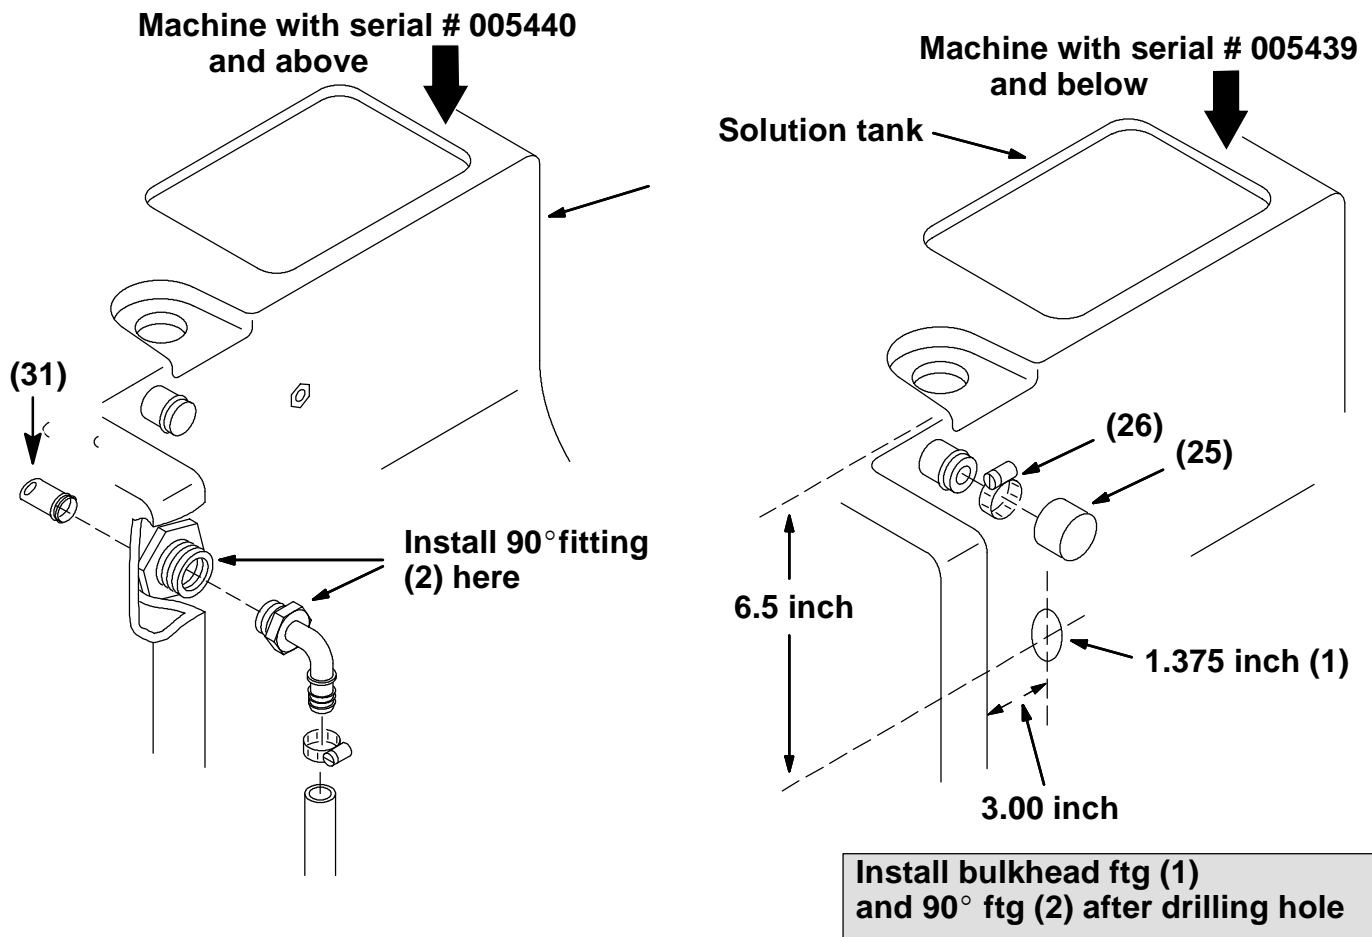

FIG. 3 - Solution Tank Rework
(Refer to FIG. 3 thru 7)
1. Use the two plug fittings (4) to plug the bulkhead fittings on the inside of the recovery tank that were left open when the fittings were removed in step 4 of the DISASSEMBLY instructions. (Refer to FIG. 3 and 7)
2. **Machine with serial # 005440 and above:** Install the 90° fitting (3) in the empty bulkhead fitting in the side of the solution tank that was left empty when the fitting was removed in step 2 of the DISASSEMBLY instructions. Make sure the barbed hose end points down. Install the new check valve (31) into the bulkhead fitting inside the solution tank. Make sure the rubber flap on the check valve (31) is facing UP when fitting is tight. (Refer to FIG. 3 and 7)
3. **Machine with serial # 005439 and below:** Install the cap (25) and wormdrive clamp (26) over the spud left open on the side of the solution tank when the fitting was removed in step 2 of the DISASSEMBLY instructions. Use the dimensions in FIG 3 to mark and drill a 1.375 inch hole in the side of the solution tank using a 1.375 inch hole saw. Install a bulkhead fitting (1) in the new hole. Install the 90° fitting (2) in the new bulkhead fitting (1). Make sure the barbed hose end points down. Install the new check valve (31) into the bulkhead fitting inside the solution tank. Make sure the rubber flap on the check valve (31) is facing UP when fitting is tight. (Refer to FIG. 3)